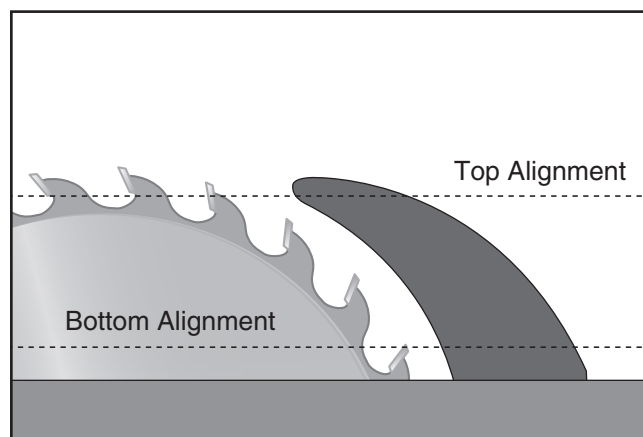
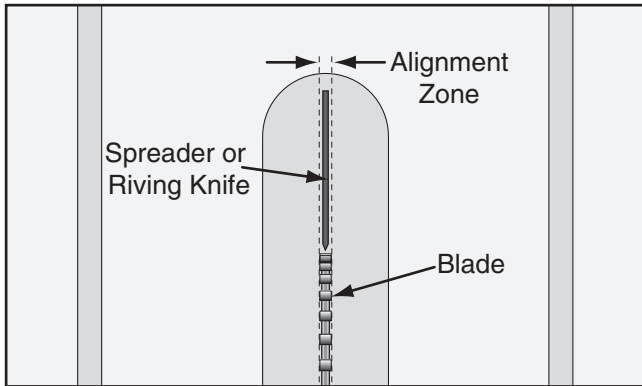

Figure 112. Checking top and bottom riving knife parallelism with blade.
Figure 113. Spreader/riving knife alignment zone.
3. Place straightedge against side of blade and spreader/riving knife at top and bottom, as shown in **Figure 112**. Spreader/riving knife should be parallel with blade along its length at both positions, and in "Alignment Zone," as shown in **Figure 113**.
2. Bend spreader or riving knife by hand while installed, then follow **Steps 1–3** in **Checking Alignment** on **Page 67** to determine if it is parallel with blade and inside "Alignment Zone" (refer to **Figure 112 Checking Alignment** on **Page 67**).